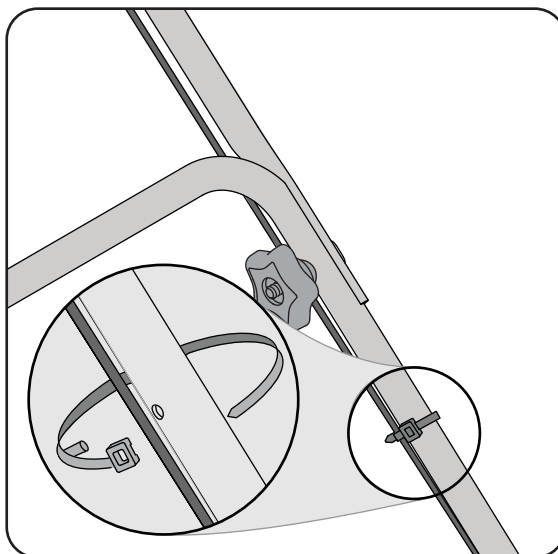

Figure 4-4
4. Insert post on cable ties into holes provided on the lower handle. Pull cable tie tight and trim excess. See Figure 4-4.